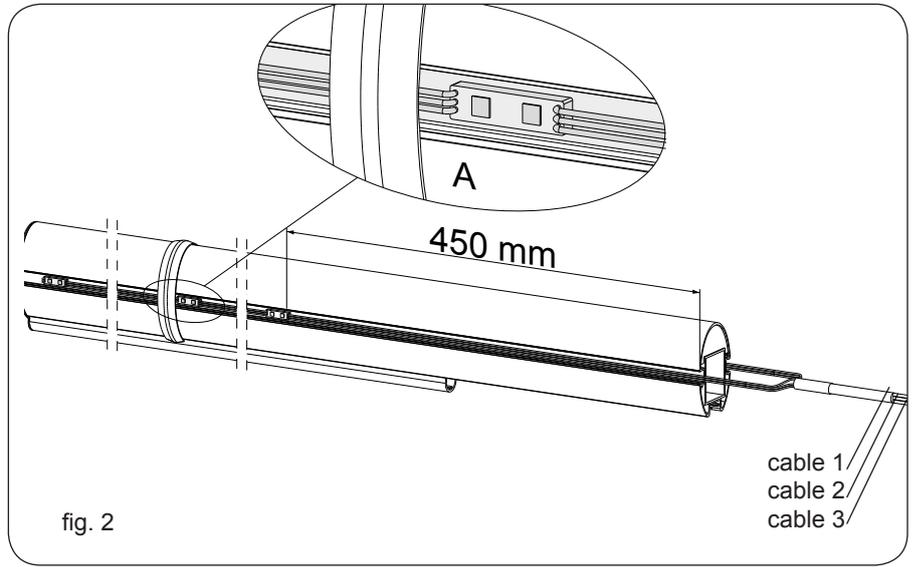

fig. 2
- 2_ apply the LEDs on both sides passing inside the bar connecting body (detail A fig. 2), complying with the starting figure (fig. 2);